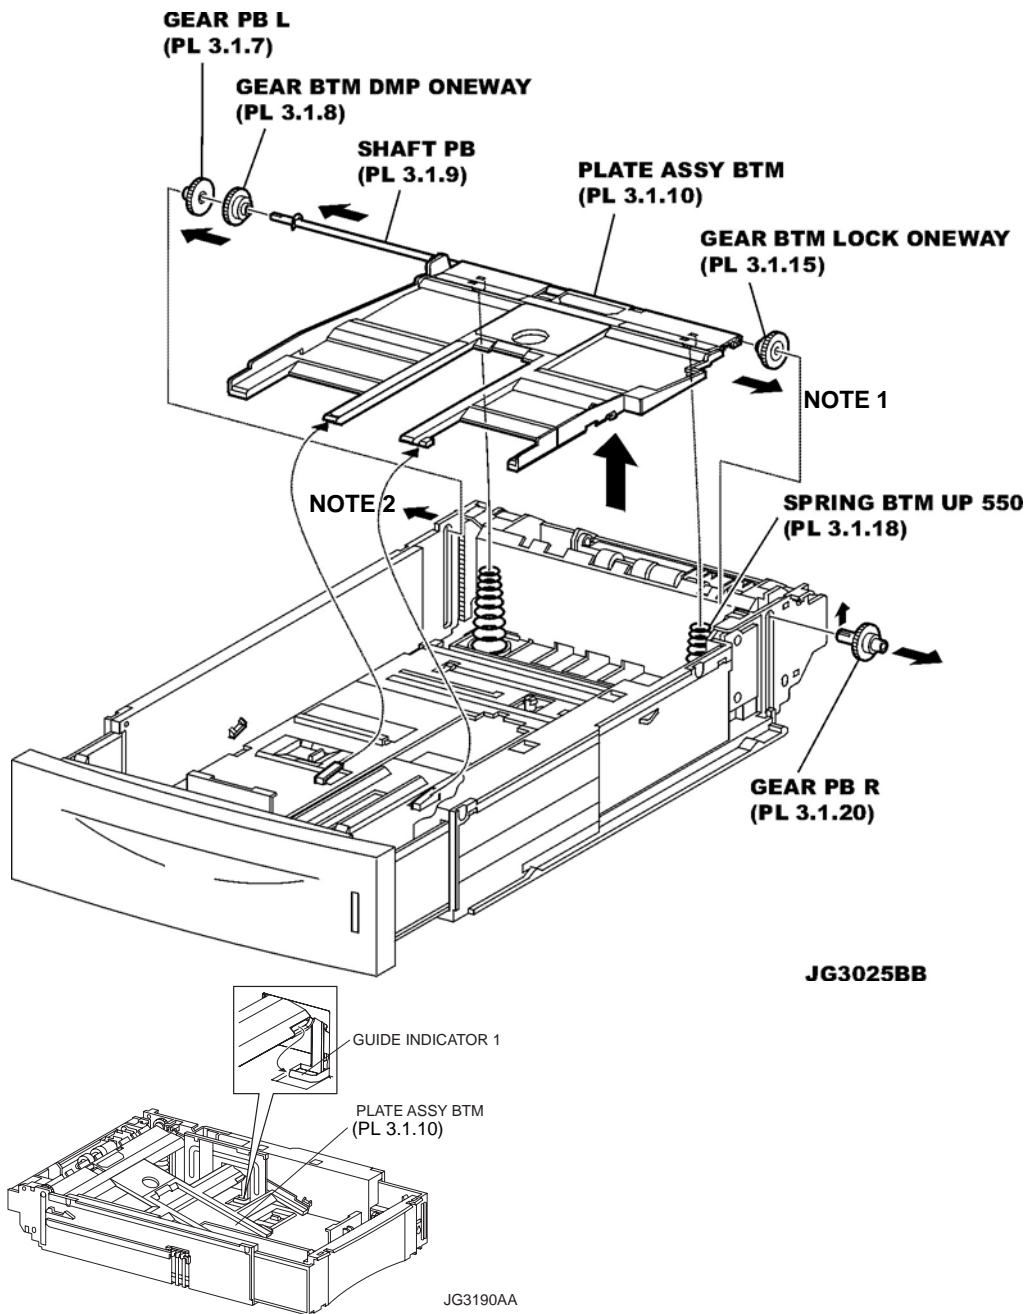
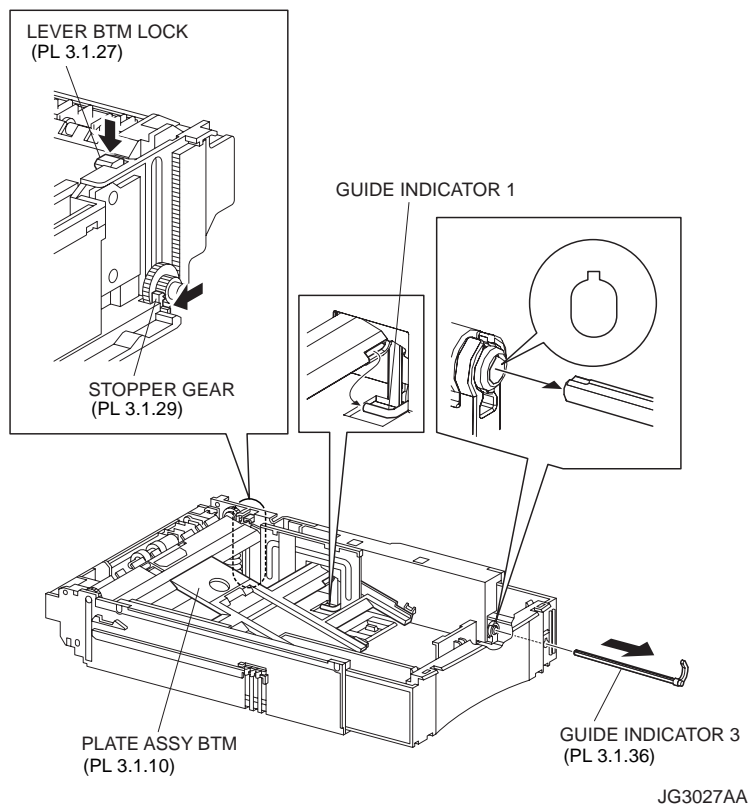

Figure 2 Tray Plate Assembly
Figure 3. Guide Indicator 3
In the following steps, the GEAR PB L (PL 3.1), GEAR BTM DMP ONEWAY (PL 3.1) and GEAR BTM LOCK ONEWAY (PL 3.1) will be detached (Figure 2). Be careful not to lose these gears.
- 7) Release the hook of the GEAR PB R (PL 3.1), and remove the GEAR PB R from the SHAFT PB (PL 3.1) (Figure 2).
It is hard to remove GEAR PB R. When removing it, be careful not to break it (Figure 2).
When installing the PLATE ASSEMBLY BTM, be sure to put 2 SPRING BTM UP 550s (PL 3.1.18) into the bosses on the back of the PLATE ASSEMBLY BTM (NOTE 1) (Figure 2).
Be sure to put 2 claws on the top of the PLATE ASSEMBLY BTM under the hooks on the HOUSING TOP 550.(NOTE 2) (Figure 2).
- 3) Insert the link lever of the GUIDE INDICATOR 1 (PL 3.1) (Figure 2) into the hole of the PLATE ASSEMBLY BTM (Figure 3).